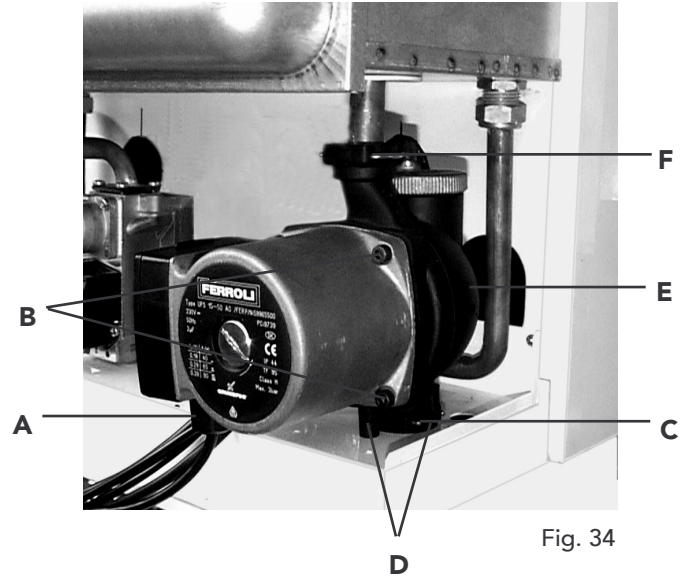

Fig. 34
7.15 Pump (fig. 34)
Replacement of pump body (fig. 34)